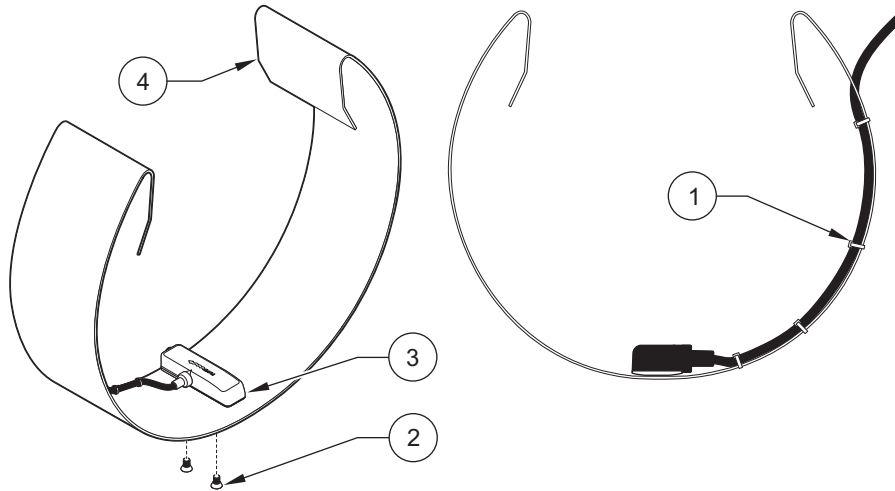

Figure 13 Attaching the Sensor to the Mounting Band
2. To reduce the likelihood of debris collecting on the cable and mounting band, route the cable along the edge of the band and fasten the cable to the mounting band with nylon wire ties (Figure 13). The cable should exit the tied area at, or near, the top of the pipe to keep it out of the flow stream.